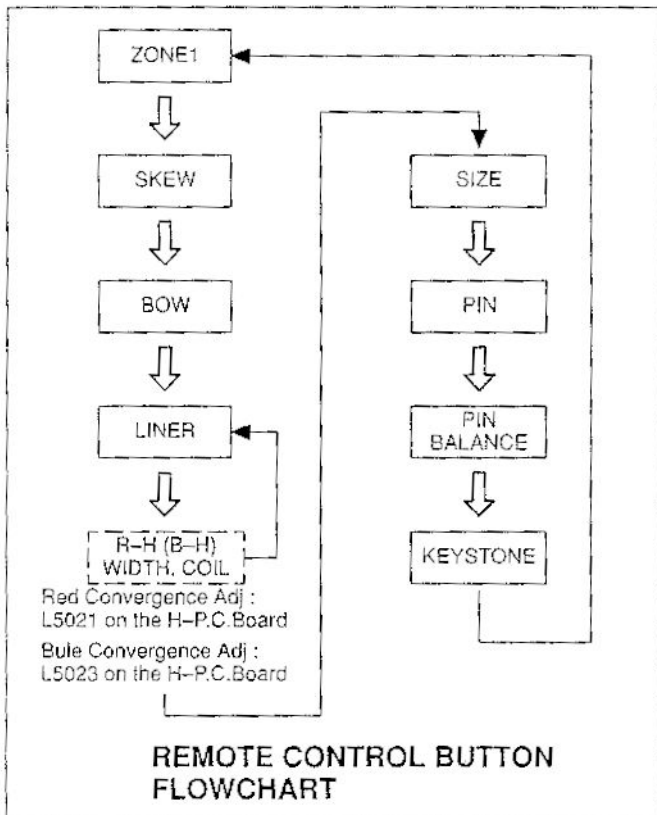

Fig. 17
21. Adjust red convergence by pressing the buttons on the remote controller in the order as shown in Fig. 17 below.